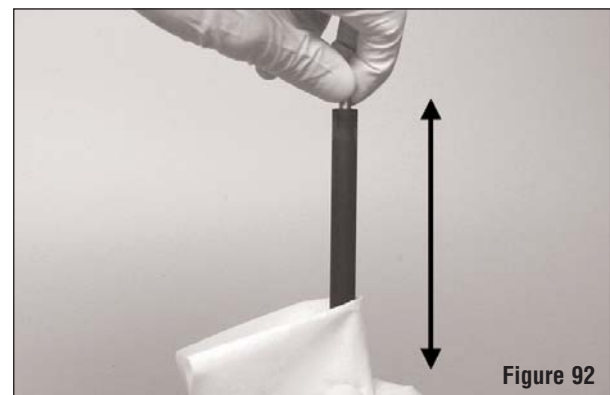

Figure 92
4. Remove the PCR from the fixture and wrap the PCR in a new lint-free cloth saturated with deionized water, then clean the PCR again using an up and down motion along the entire outer surface of the PCR. See Figure 92.